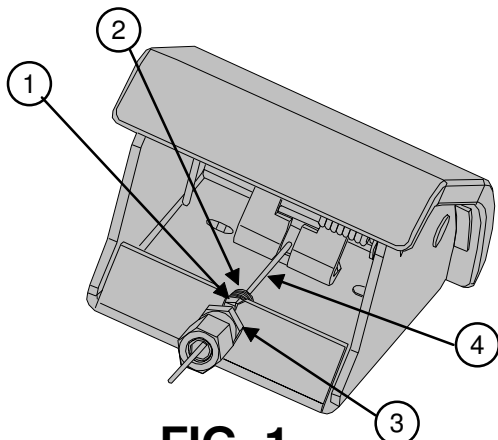

FIG. 1
2. Unscrew the front nut (1) on the valve cable and insert the cable (4) through the slot on the back side of AG250-303 pedal. The rear nut (3) remains at the end of the thread (2). Adjust cable holder (2) for proper pedal operation and secure its position with nuts (1) and (3). Use 3/32 wrench for tightening nuts (M5x0.8mm). Control cable (4) should be snug. (FIG.1)